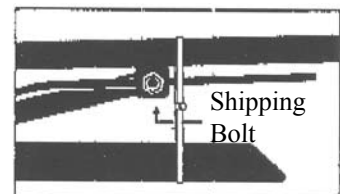

Figure 2
1. Using a 9/16" socket wrench, loosen the nut (shipping bolt) marked "Under pressure". (see figure 2)